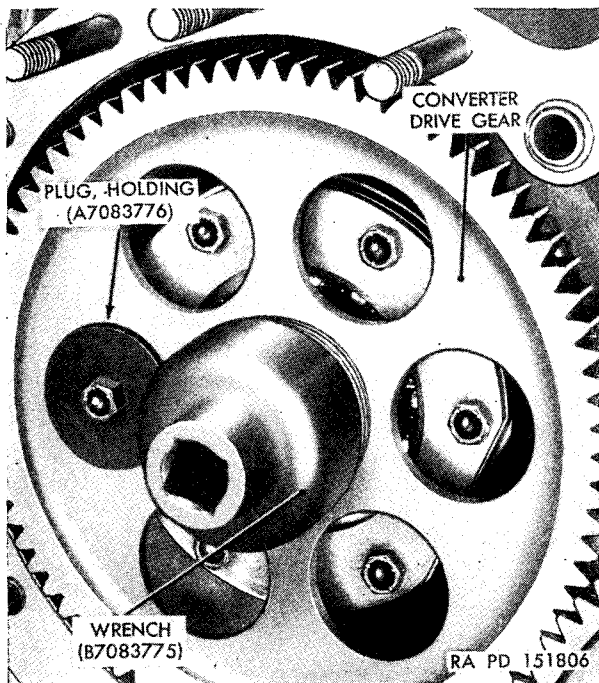
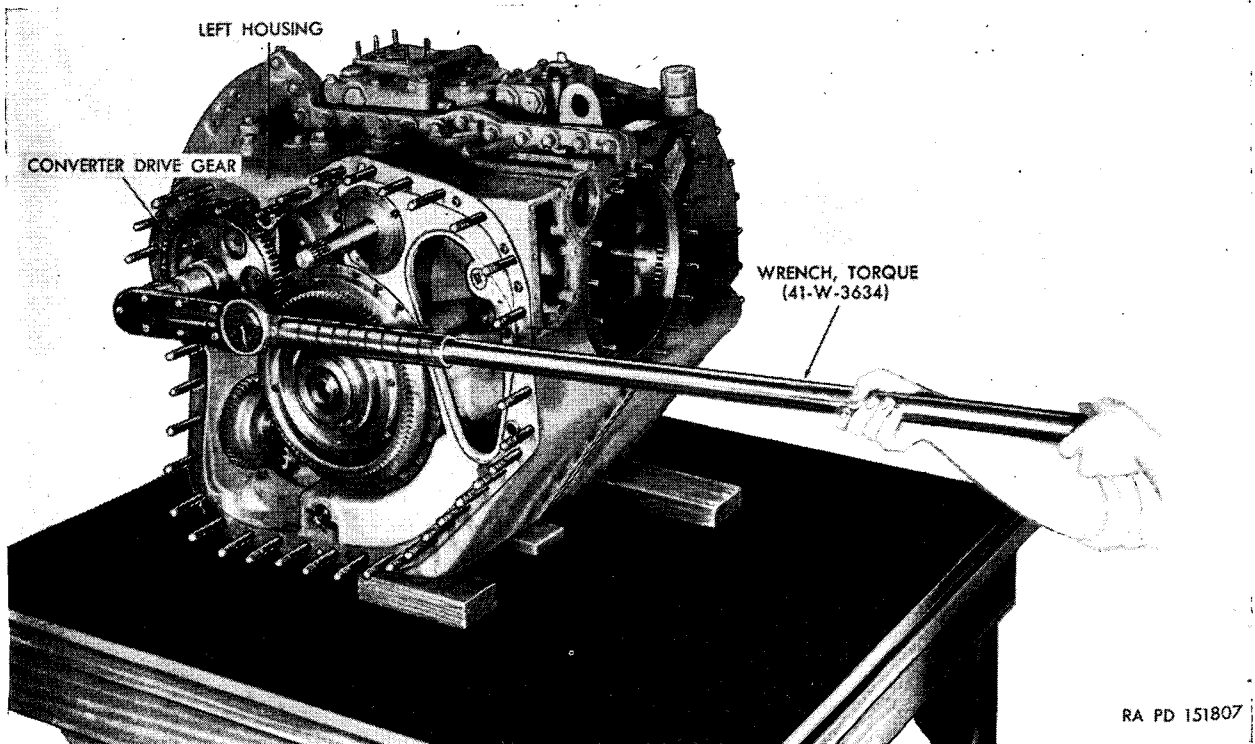

Figure 67. Special tools installed.
Figure 68. Removing or installing converter-drive-gear spanner nut.
- (2) Install the wrench (B7083775) (fig. 67) and remove the converter drive-gear spanner nut with torque wrench (41-W-3634) (fig. 68). Remove the holding plug.